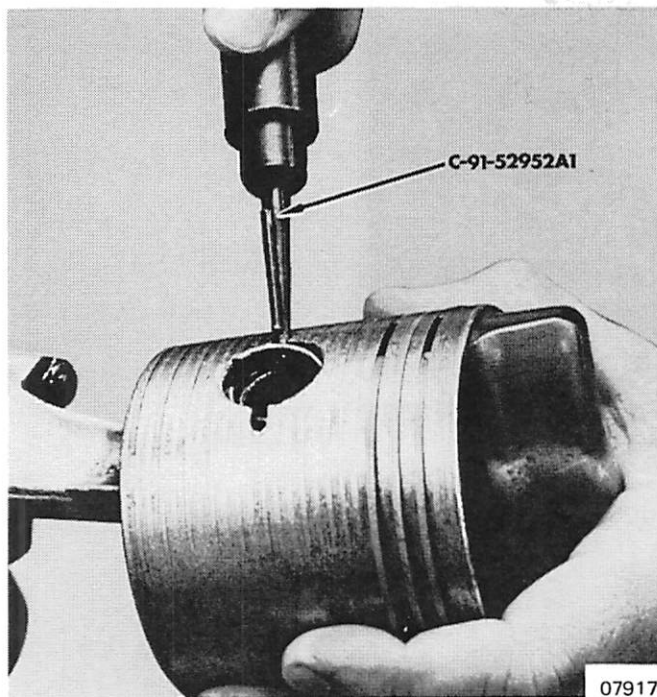

Figure 2. Removing Piston Pin Lockring
2. Remove piston pin lockrings from both ends of piston pin and discard. (Figure 2) Never reinstall used lockrings.